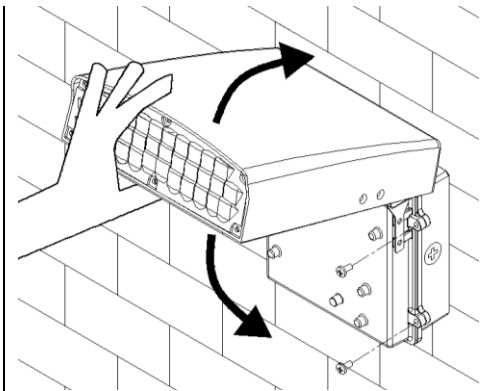

FIG. 5
7. Close fixture and tighten the 2 screws (figure 5).